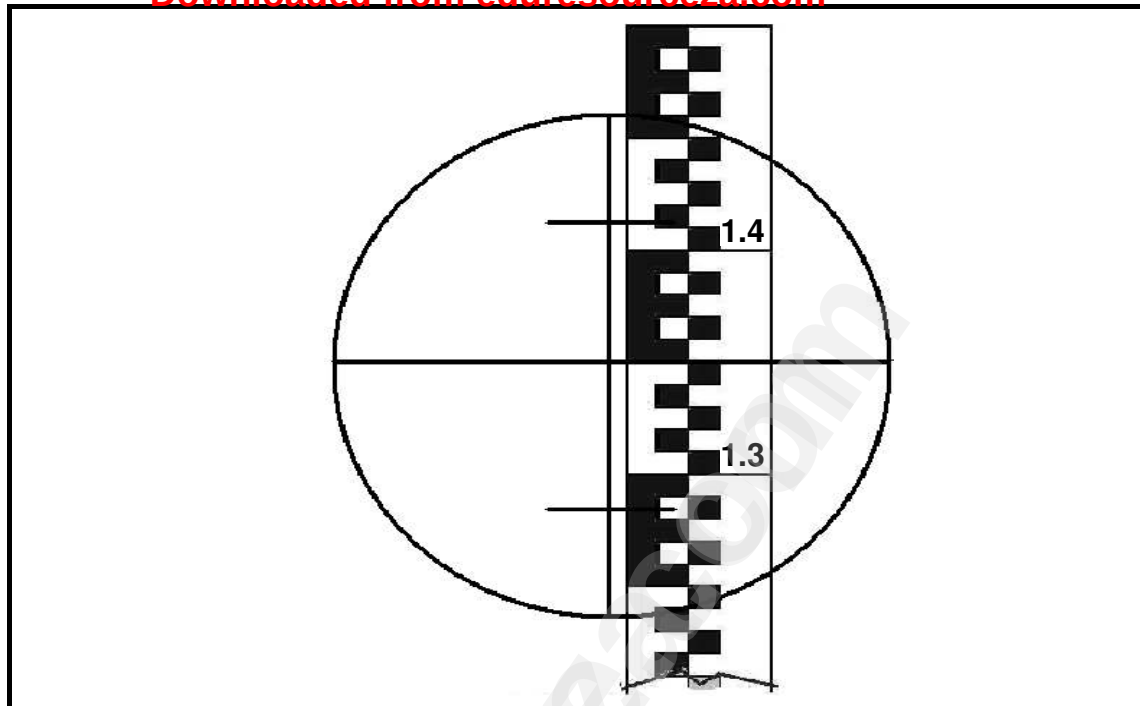

FIGURE 2.7
- 2.7 FIGURE 2.7 shows the reading of a dumpy level on a telescopic staff. Answer the following questions with regard to the reading.
- 2.7.1 What is the height reading in FIGURE 2.7? (1)
- 2.7.2 Determine the distance from the dumpy level to the staff according to the reading in FIGURE 2.7. Show all the calculations. (3)